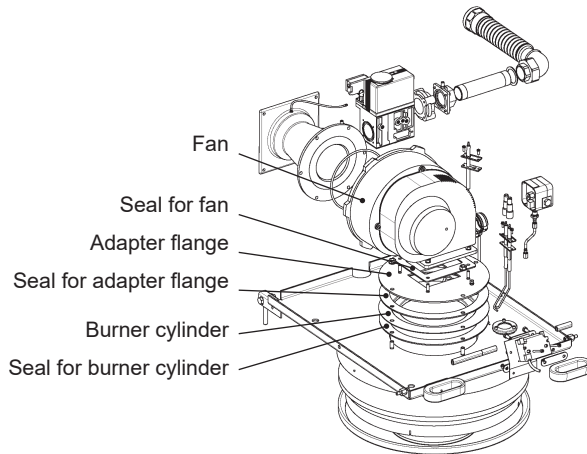

Fig. 51
- Unscrew the adapter flange (Fig. 51).
- Assemble the burner in the reverse order according to Fig. 51.